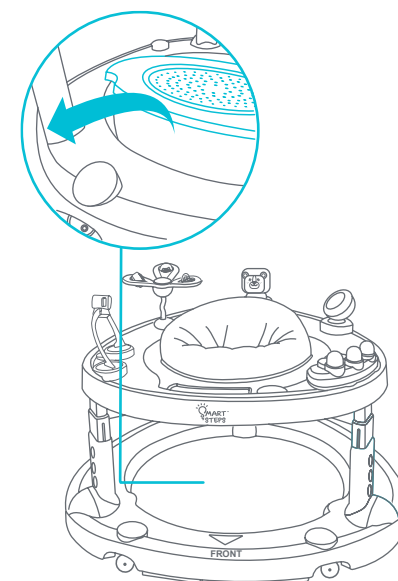

Fig. 10
- To remove, gently lift the walker up, and remove the Air Bouncer Board (Fig. 10).